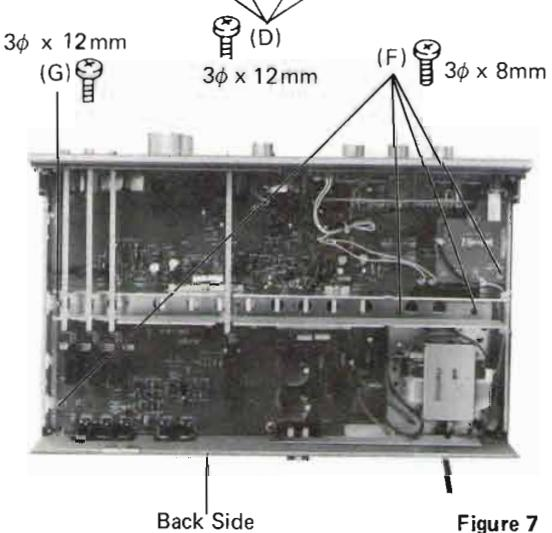

Figure 7
3. Remove four screws (F) ( $3\phi \times 8\text{mm}$ ) and one screw (G) ( $3\phi \times 12\text{mm}$ ) holding the P.C. Board as shown in Figure 7.